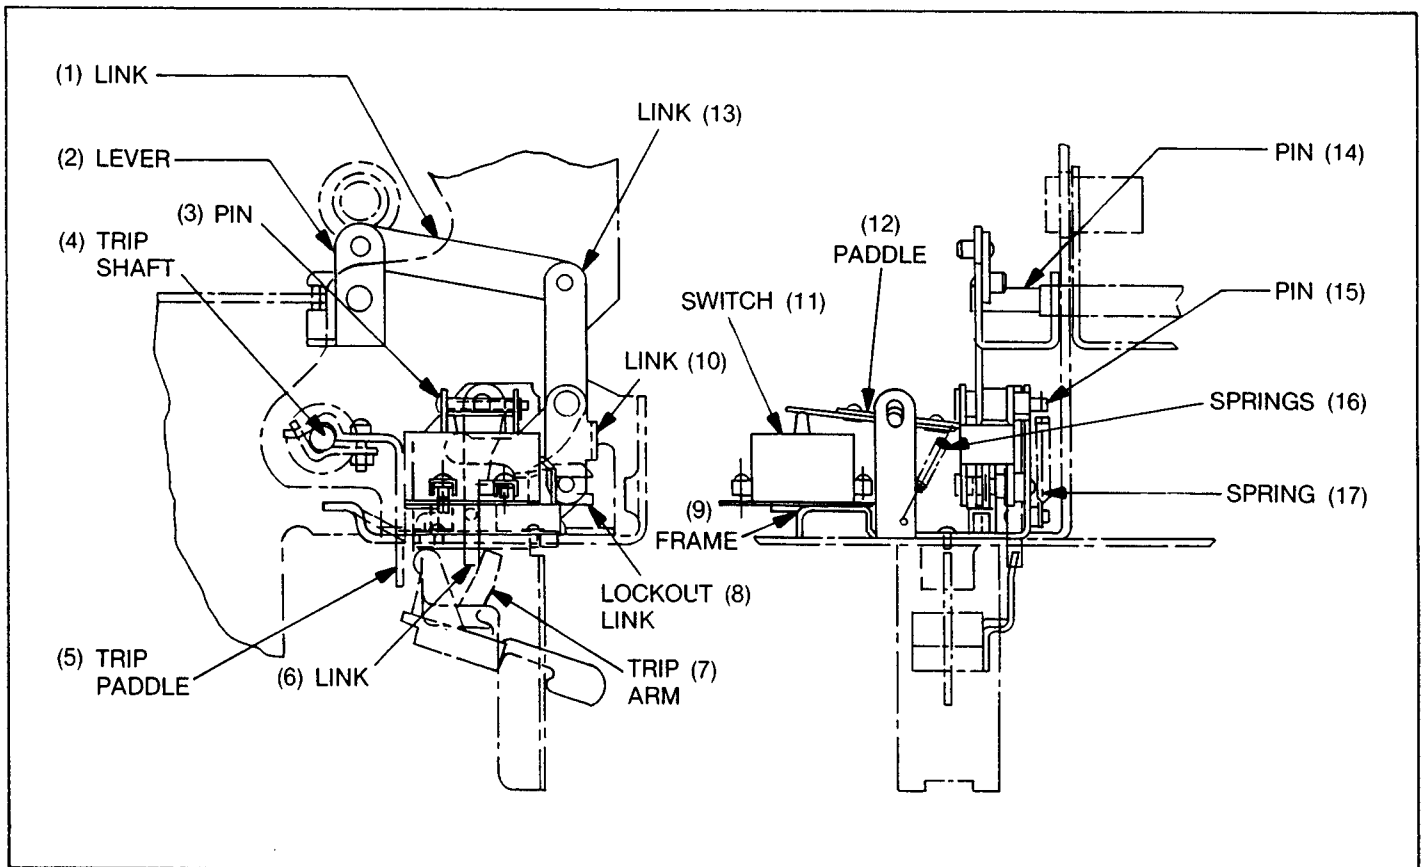

Fig. 15. Bell alarm and lockout device
### Bell Alarm Switch and/or Lockout Attachments (Fig. 15)
The lever (2), Fig. 15, is connected to the breaker mechanism so that when the breaker opens, lever (2) rotates counterclockwise about pin (3). The motion is transmitted through links (1) and (13) to paddle (12) which operates bell alarm switch (11). If the device has the lockout feature, the movement of link (13) also causes lockout link (8) to slide in a direction that results in its striking trip paddle (5) which, by displacement of the breaker mechanism trip latch, makes it impossible to reset the breaker mechanism until the bell alarm mechanism is reset.